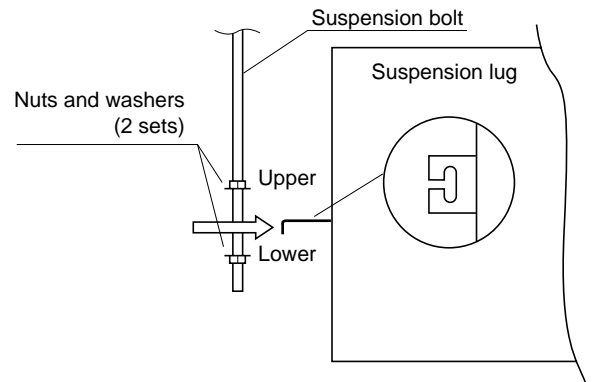

Fig. 3-7
- (2) Thread the 2 hexagonal nuts and washers (field supply) onto the 4 suspension bolts as shown in Fig. 3-7. Be sure to use 2 sets of nuts and washers (upper and lower), otherwise the unit may fall off the suspension lugs in the event of an earthquake.